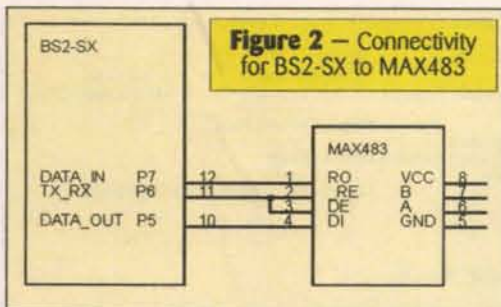

Figure 2 - Connectivity for BS2-SX to MAX483
The MAX483 does not provide electrical isolation for this RS-485 network. Therefore, all circuit grounds are common, and should be connected via a conductive ground wire that runs the length of the network with the communication pair (A and B inputs/outputs). On the BS2-SX side, the MAX483 is interfaced via three wires. The first two are the receiver output (RO) which sends data to the BS2-SX from the RS-485 network and the data input (DI) which receives data from the BS2-SX and places it on the RS-485 network bus. The last connection is the receiver enable (asserted with a logic low) and driver enable (asserted with logic high) pins which can be tied together and connected to a single BS2-SX output. This last connection allows the BS2-SX to select the state of the RS-485 transceiver. Figure 2 is representative of this connectivity.